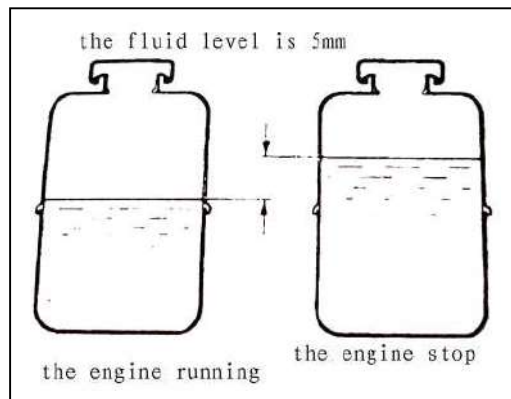

Fig.17-8
9. POWER STEERING SYSTEM BLEEDING (See fig 17-8)